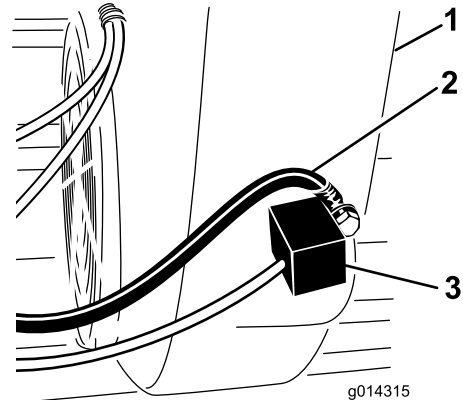

Figure 5
6. Locate the engine-ignition module on the underside of the engine shroud (Figure 5).